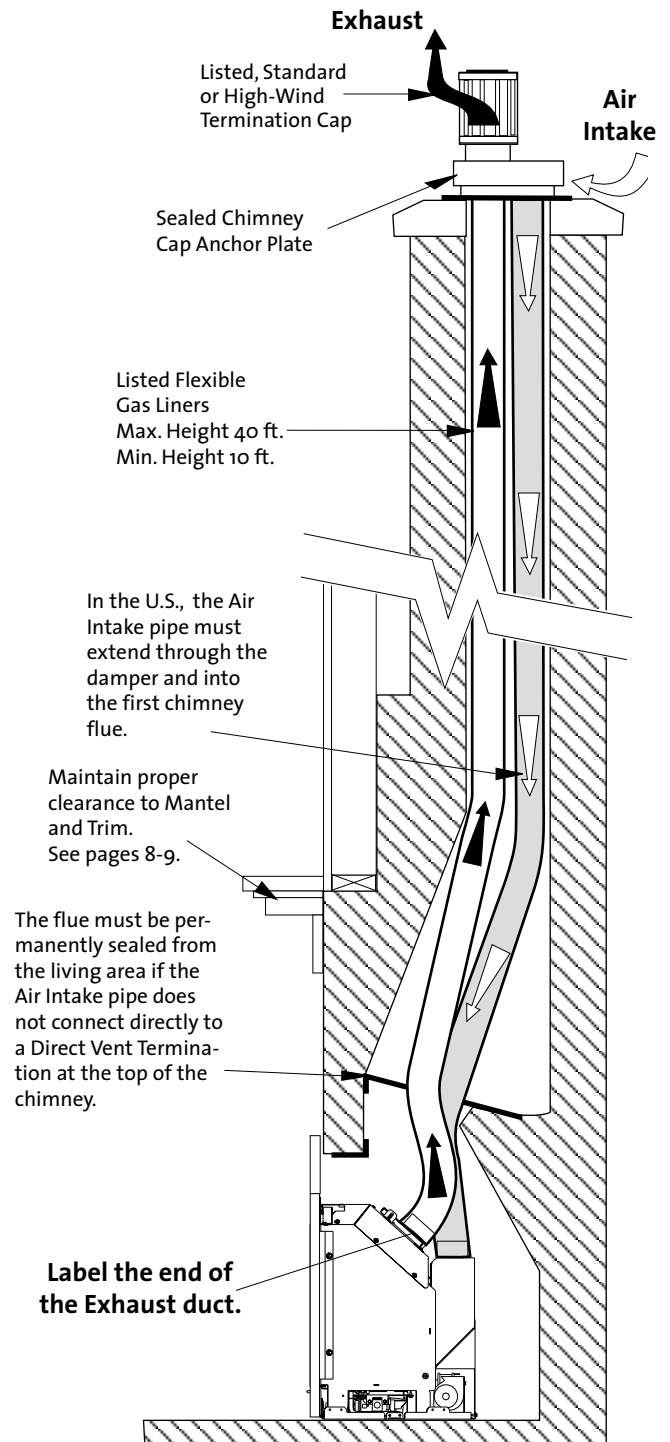

Figure 8. Masonry Fireplace Venting Configuration.
- The minimum height of termination cap from the top of the unit shall be no less than 10’, and the maximum height shall be no more than 40’. See figures 8 and 9.
One duct is attached to the exhaust port on the back of the unit and will carry the exhaust gases to the outside of the house. This exhaust liner must run the full length of the chimney and be directly connected to the chimney termination cap. See figure 8.
The other 3 inch liner will be attached to the air intake port on the back of the unit and will provide fresh air for combustion to the unit. This liner must extend a minimum of 6 feet off the back of the unit and extend through the damper area of the fireplace and into the tile liner of the chimney. This liner can also extend the full length of the chimney and connect to the termination cap. See figures 8 and 9.
If the intake flex does not extend the full length of the chimney and connect to the unit and the termination cap - A METAL BLOCK OFF PLATE MUST BE CONSTRUCTED AND INSTALLED ABOVE THE UNIT BELOW THE END OF THE INTAKE DUCT (normally at the damper area). See figure 8.